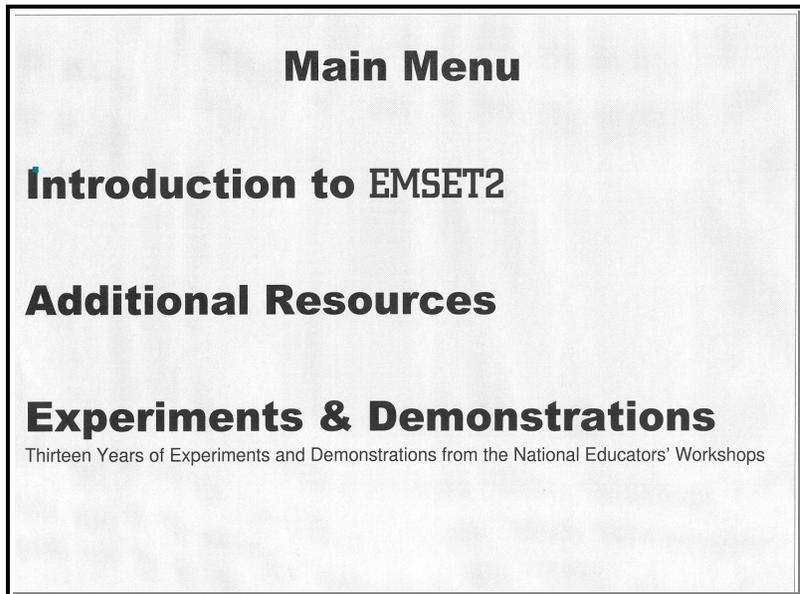

Fig 1 - Main Menu
*EMSET2* contains three major sections as shown on the Main Menu (Fig 1).